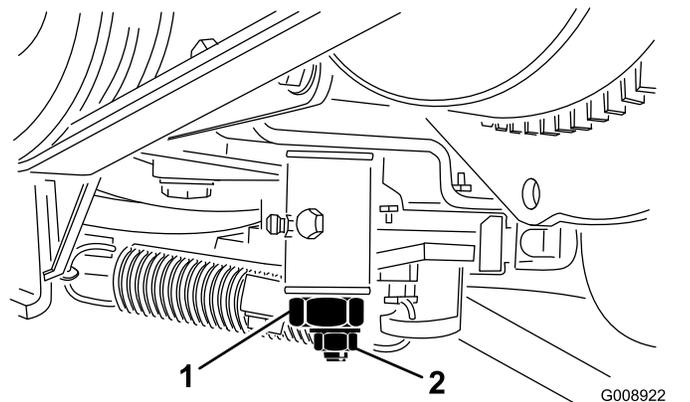

Figure 53
4. Loosen the locknut on the traction adjustment cam (Figure 53).